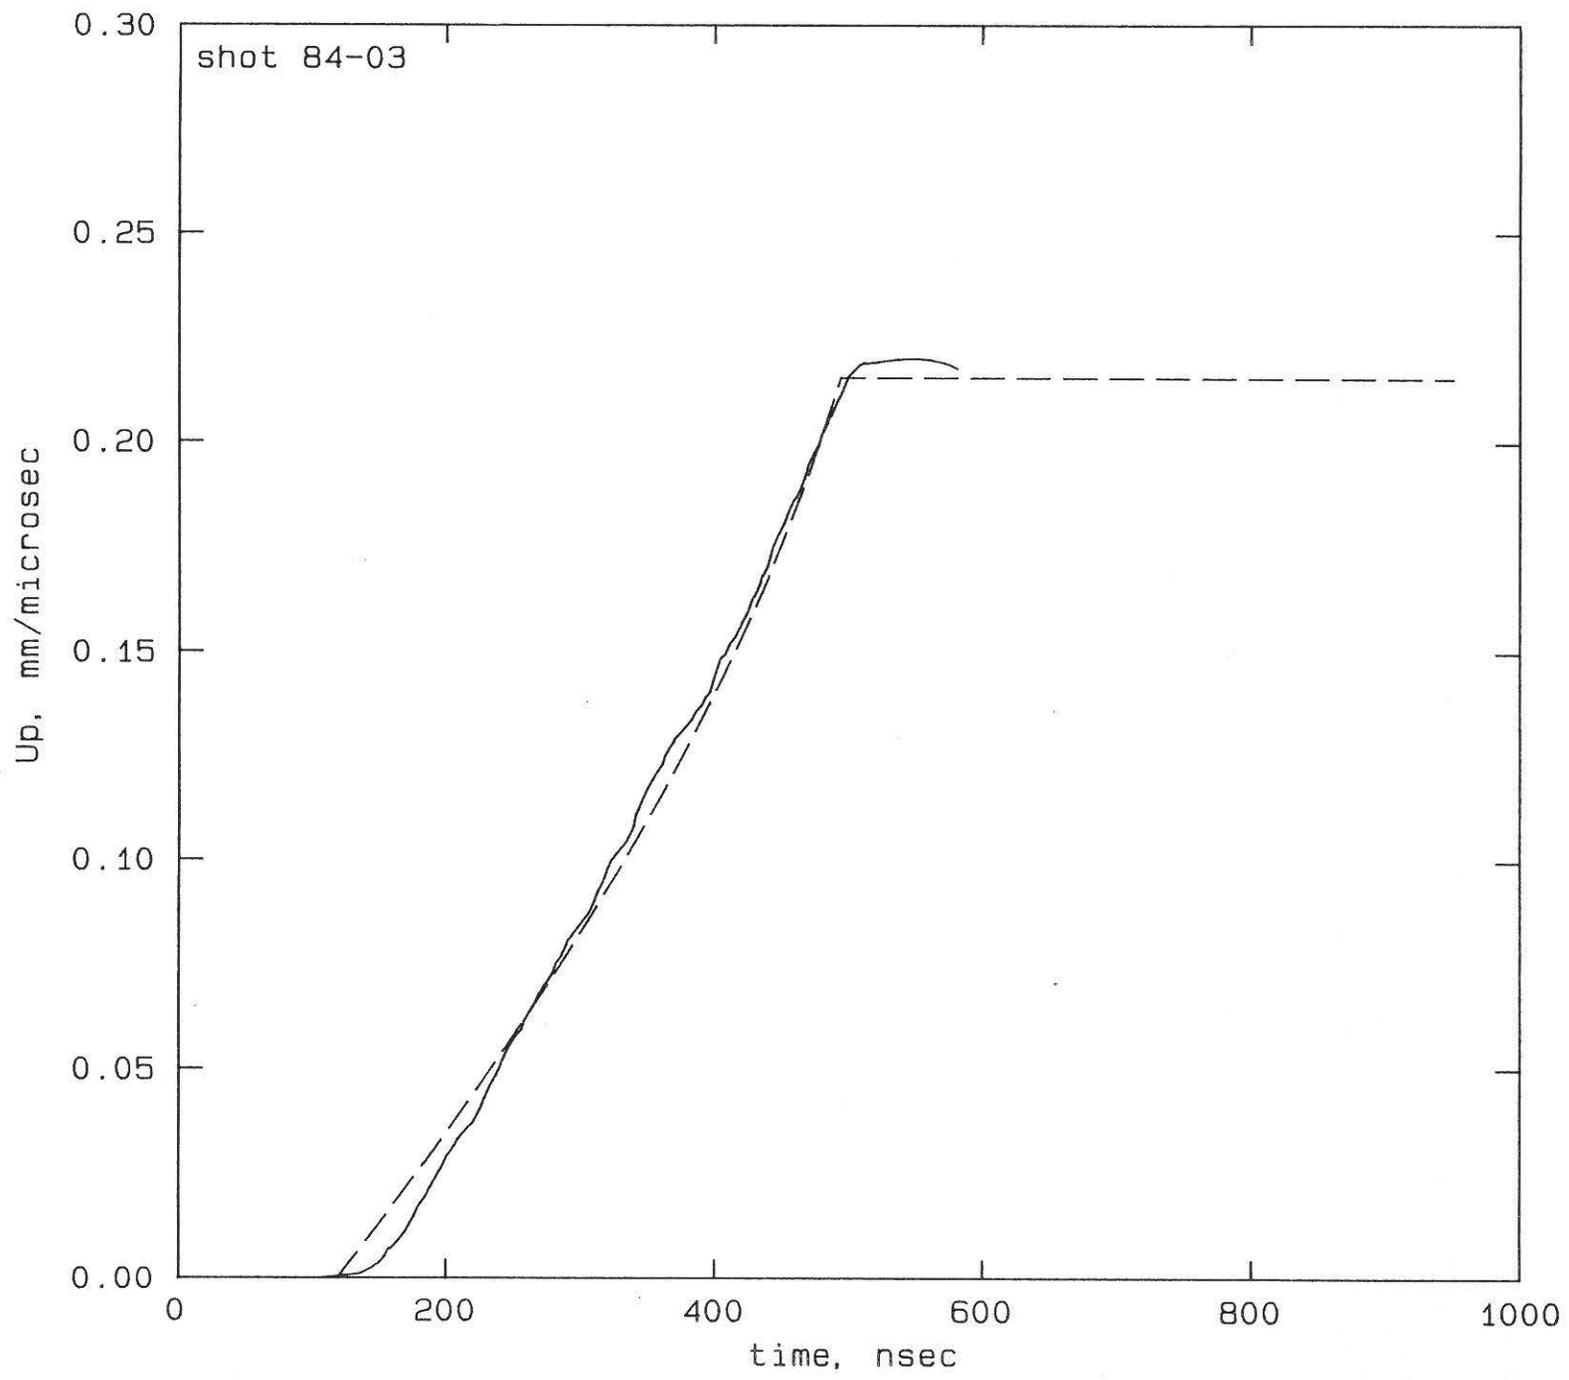
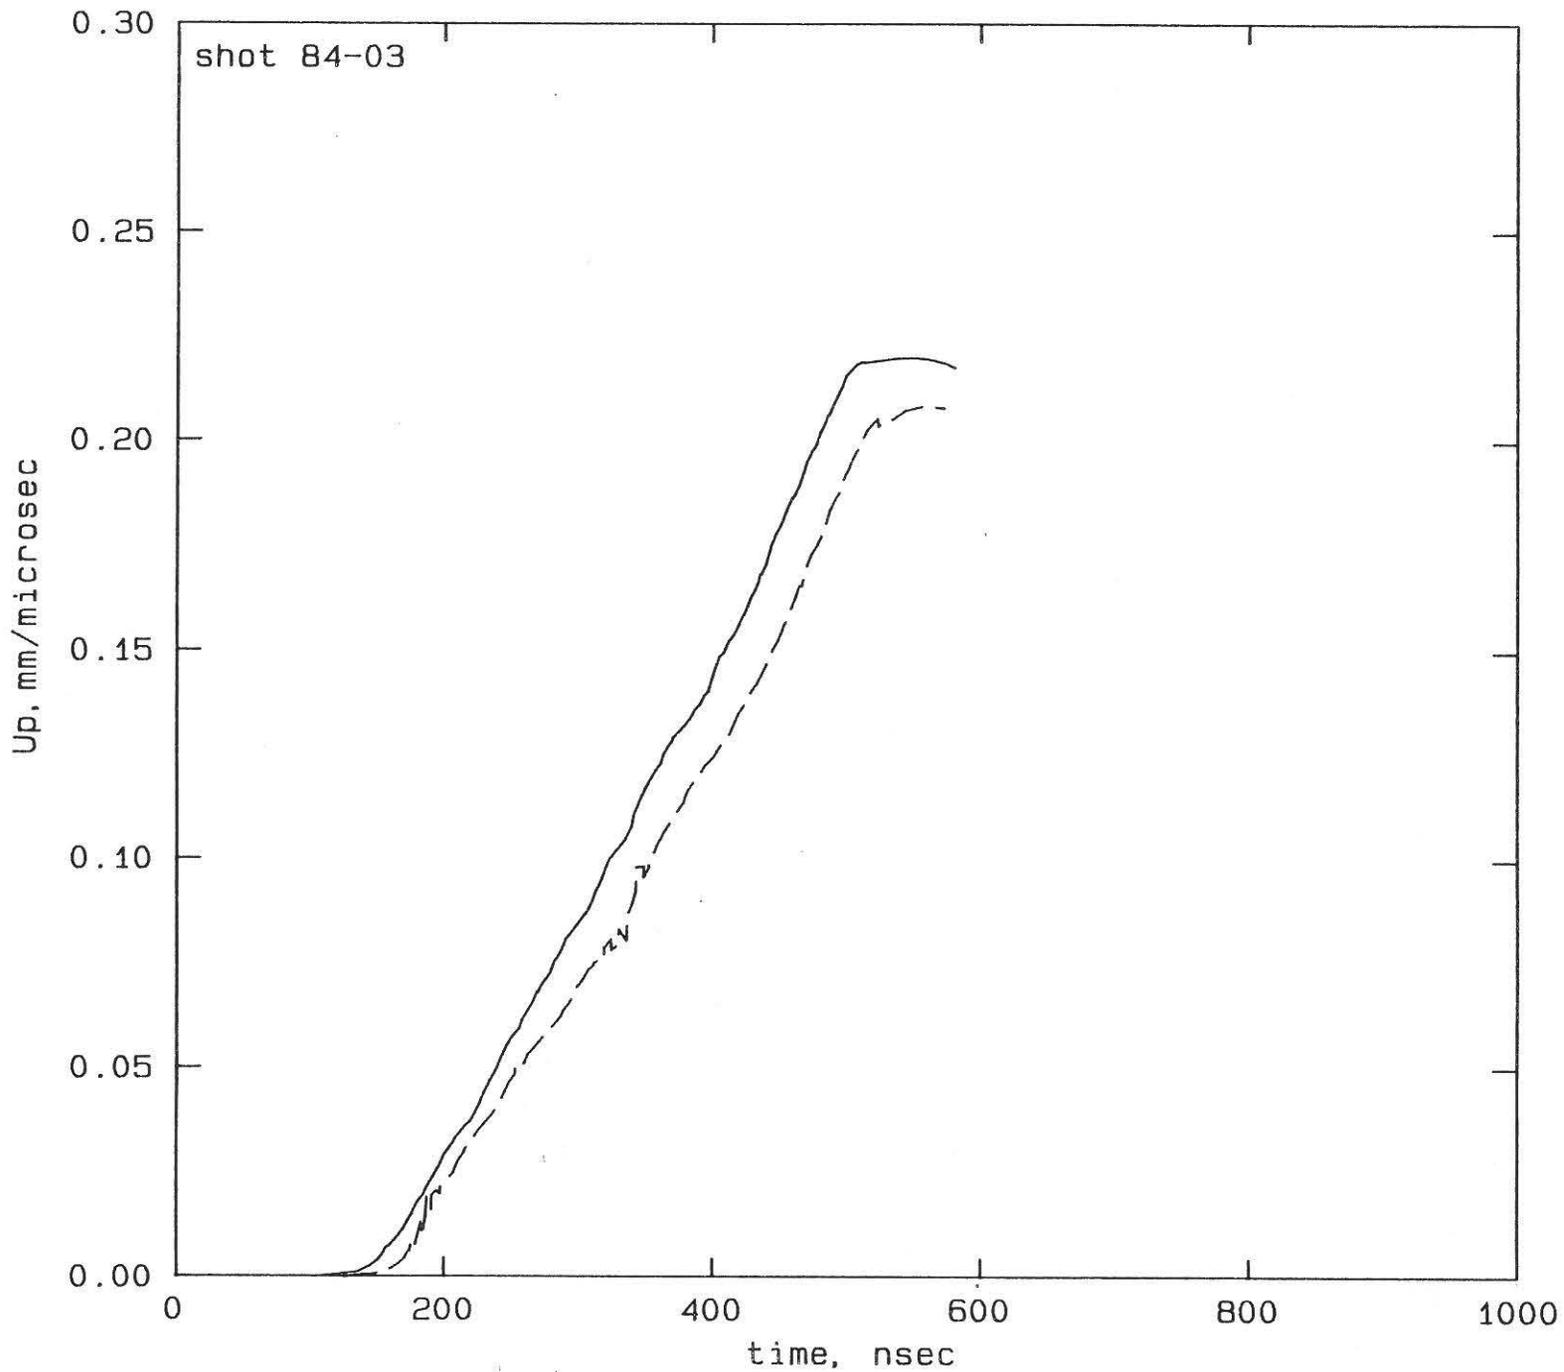

Figure 3.
Figure 4.
There are two different analyses of the measurement of Shot 84-03 each made with the VISAR program at different times. These are shown in Fig. 4. The solid curve (file h84-03plot) was used in Fig. 3. The two curves probably represent, in some fashion, the errors in reduction of fringe data from the VISAR.
- Fig. 3 Measured and calculated particle velocity profiles for fused quartz. Shot No. 84-03. ————— measurements from Ref. 1. ----- Calculated from Eqs. (1) and (2). Measurements and calculations are filed in /user/ged/QTZFUSED as h84-03plot and 84-043calc, repectively. This figure can be reproduced by entering the above directory and typing "graphit -m -r -0 h84-03plot q3" (First remove the comments at the ends of the two files.)
- Fig. 4 Two different analyses of VISAR measurements from Shot. No. 84-03. Both can be found in /user/ged/QTZFUSED. The solid curve is h84-03plot; the dashed curve is s84-03plot.